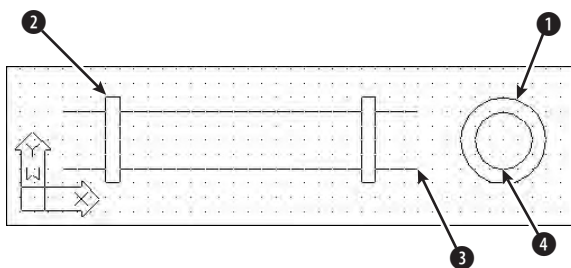

Figure 6-4: The pipe with cross-section
4. At the **Specify a point or [Hor/Ver/Ang/Bisect/Offset]:** prompt, choose point ①, shown in Figure 6-4.
5. At the **Specify through point:** prompt, choose point ②, shown in Figure 6-4.
8. At the **Specify start point:** prompt, choose point ③, shown in Figure 6-4.
9. At the **Specify through point:** prompt, choose point ④, shown in Figure 6-4. Press Enter to end the command.